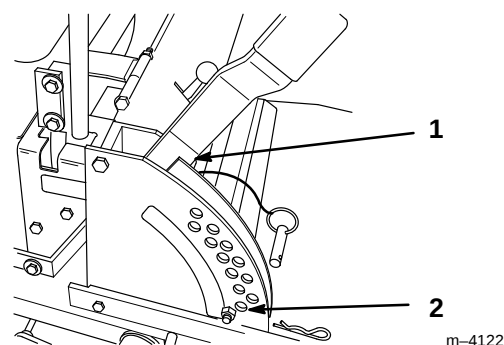
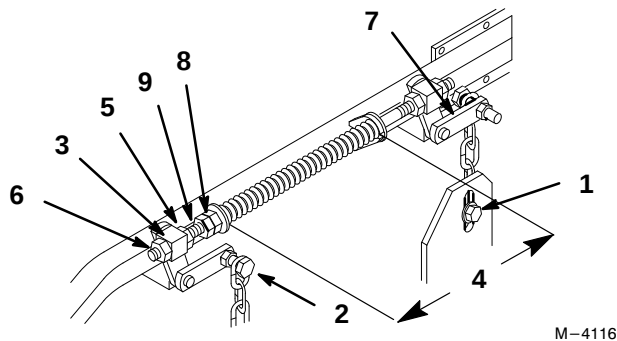

Figure 42
Figure 43
2. Check tire pressure of all four (4) tires. If needed, adjust to 13 psi (90 kPa)
4. Raise the deck to the transport position (Fig. 42). Take force off of the two large deck lift springs by loosening jam nut and front spring nut, in front of each spring, as far as possible (Fig. 43).
5. Place two 1-1/4" (35 mm) thick blocks under rear left and right lower edge of mower. Place one 1-3/8" (44 mm) block under front center lower edge of mower. Not under anti-scalp roller brackets. Lower mower to the 1-1/2" (38 mm) height-of-cut position (Fig. 42).
6. Loosen bottom chain bolt in slot at rear of deck. Repeat for opposite side. (Fig. 43).
7. Loosen front and rear locking nut on either side of front swivel. Loosen until front chains are loose and deck is supported by blocks. Repeat for opposite side. (Fig. 43).
8. When hardware is loosened, remaining tension in the large support springs will tend to rotate the deck lift handle up, out of the 1-1/2" position. Press down on the rear deck support arm to firmly return the deck lift handle to the 1-1/2" position (Fig. 43).
9. While continuing to press down on rear deck support arm, take the slack out of the rear chain and tighten hardware at the bottom (Fig. 43). Downward pressure may now be released. Repeat for opposite side.
14. Raise deck lift lever to the transport position, (Fig. 42).
15. Adjust compression springs by turning the front spring nuts so the distance between the two large washers is 10-1/4" (260 mm). Then tighten jam nut (Fig. 43).